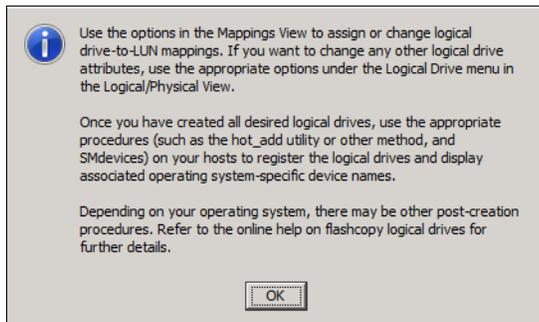

Figure 2-10 Create a FlashCopy Logical Drive: Complete
e. At the completion message (Figure 2-10), click **OK**.